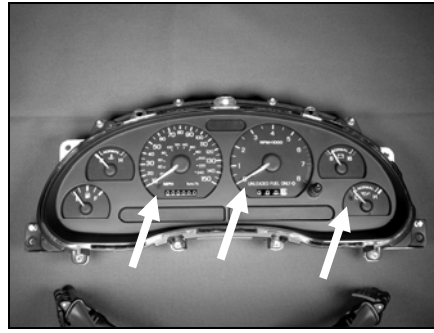

Figure 7
- B. Locate the 3 pointer-stops that are pressed into the original appliqué surface. Remove them by pulling perpendicular from the original appliqué surface. Pointers may need to be gently rotated Clockwise (CW) away from the pointer stop. Pliers may be necessary. (See Figure 7)
- B. Press the tapered end of the pointer stops into the holes in the following locations: speedometer, tachometer, and oil pressure. (See Figure 7 where the OEM pointer stops were removed)